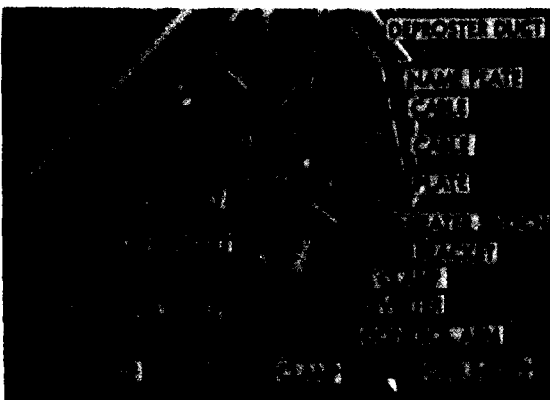
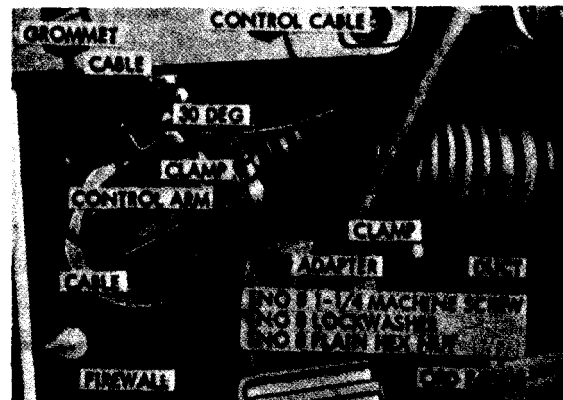

Figure 610. Heater controls
Figure 611. Duct mounted on firewall
- (4) Secure control bracket to instrument panel (fig. 610) with two No. 10 X 5/8 machine screws and nuts. Secure switch bracket to instrument panel with two 1/4 x 1/2 machine screws, lockwashers and nuts.
- (5) Position adapter on firewall at approximately 30° angle as shown in figure 611. Using adapter as a template, drill two holes through the firewall with a No. 16 drill. Secure adapter to firewall with two No. 8 x 1-1/4 machine screws, lockwashers, and nuts.
- (6) Secure diverter (fig. 610) to firewall with four 1/4 x 3/4 machine Screws, lockwashers, and nuts.
- (8) Connect duct to adapter (fig. 611) and to diverter (fig. 610) and secure with Clamps.
- (9) Remove nut and lockwasher from control cable (GG, fig. 599). Slip nameplate (S, fig, 599) onto cable, then thread cable through left hole in control bracket (EE, fig. 599) and secure with nut and lockwasher. Move the control arm forward to close valve in adapter (fig. 611). Push control cable in all the way. Connect cable to control arm and secure with clamp.
- (10) Remove nut and lockwasher from defroster cable (Q, fig. 599). Slip nameplate (R, fig. 599), onto cable, then thread cable through right hole in control bracket (E, fig. 599) and secure with nut and lockwasher. Move control arm on diverter (fig. 610) to the right as far as possible. Push defroster cable in all the way. Connect cable to control arm and secure with clamp.
- (11) Remove nut and lockwasher from heater switch (SS, fig. 599). Hold heater switch in bracket (fig. 610), slip lockwasher onto switch and secure switch with the nut.
b. The hard-top closure kit (figs. 610 and 620) consists of a back panel, roof panel, two rubber strip seals, end attaching hardware.